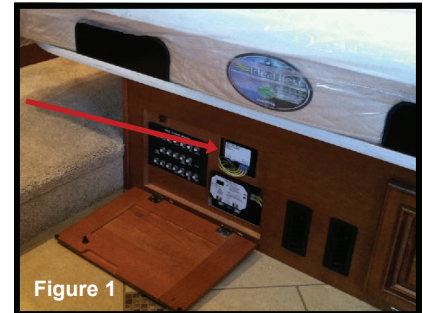
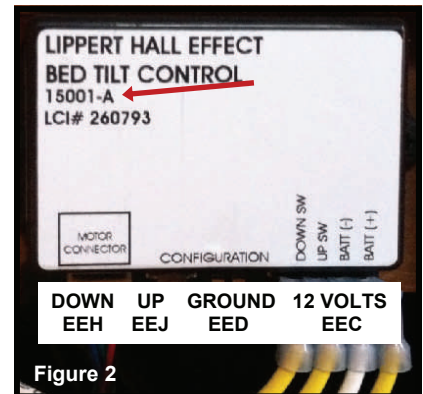

Figure 1
Figure 2
1. Locate the LCI bed control (15001-A) under the bed platform at the foot of the bed. (Figure 1) Disconnect the positive wire, ground wire, up, down and motor connector wiring. (Figure 2)
2. Install new revision control (15001-B). Connect motor wires, up, down, positive wire and then ground wire. (Figure 2)
1. To enter calibration mode, hold the 'Configuration' button down for 5 seconds. (Figure 2)